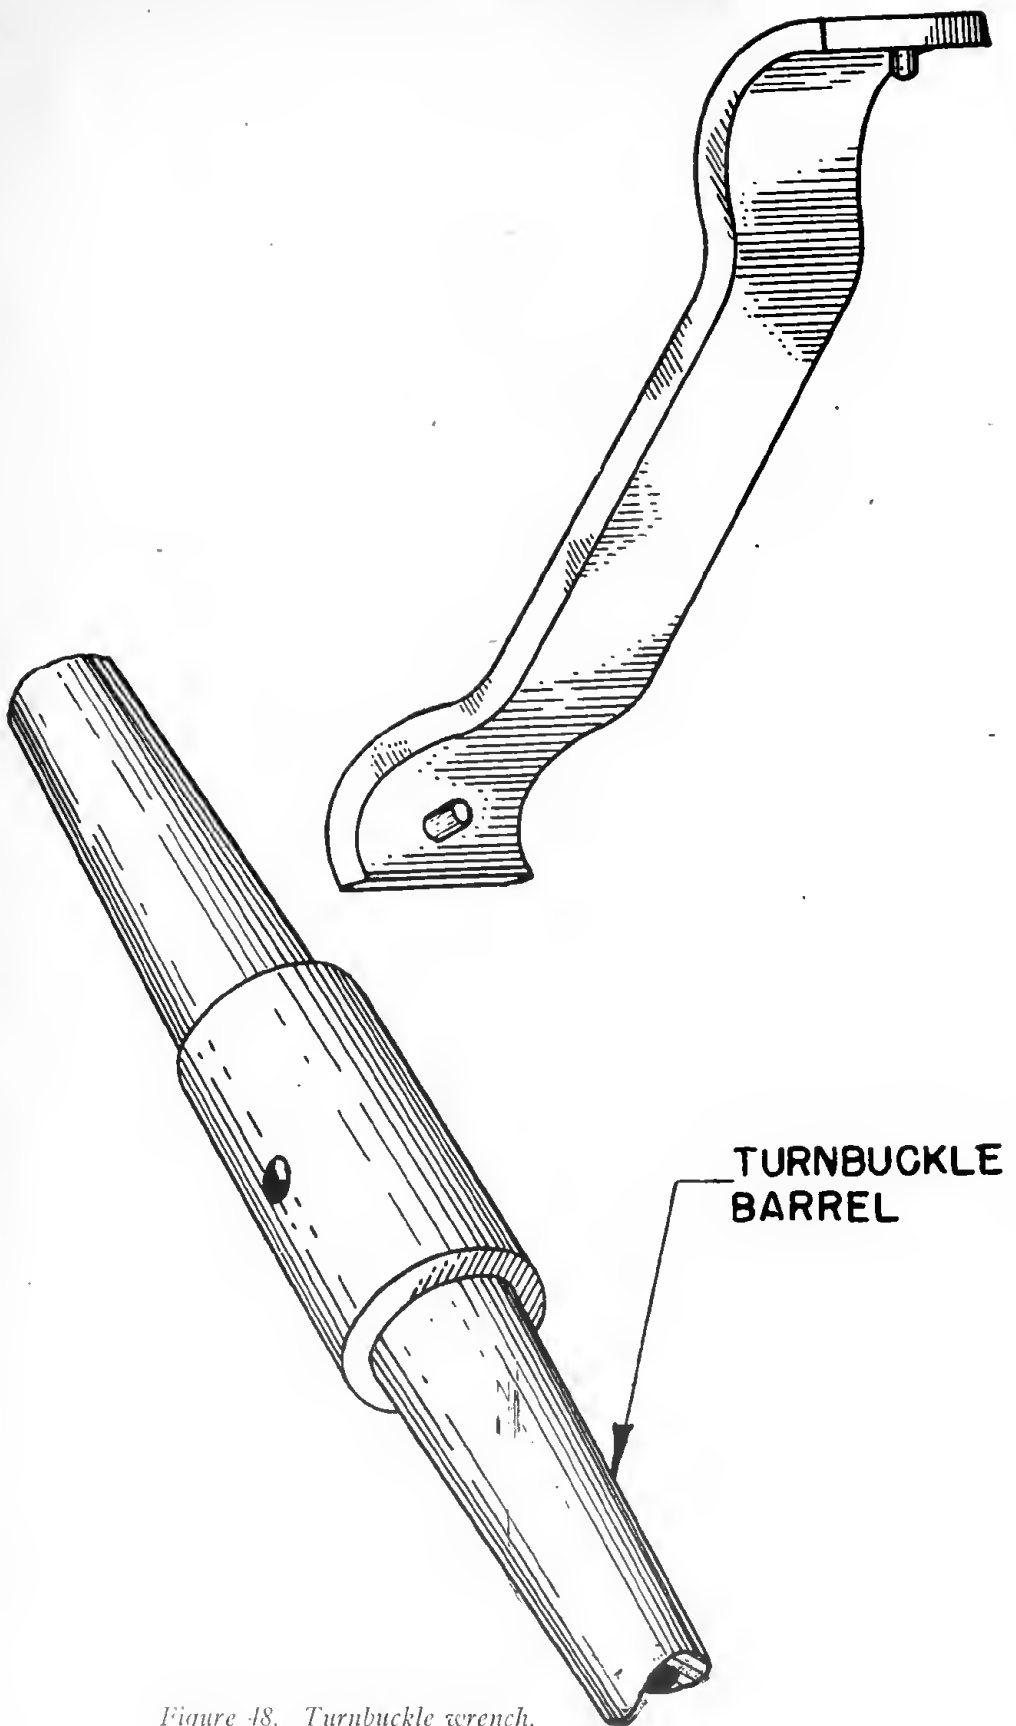

Figure 48. Turnbuckle wrench.
b. TURNBUCKLE WRENCH. The turnbuckle wrench (fig. 48) is a short bar curved on each end to fit the body of a turnbuckle. Each curved surface has a short steel peg which fits into the hole in the center of the turnbuckle. It is used to adjust turnbuckles.